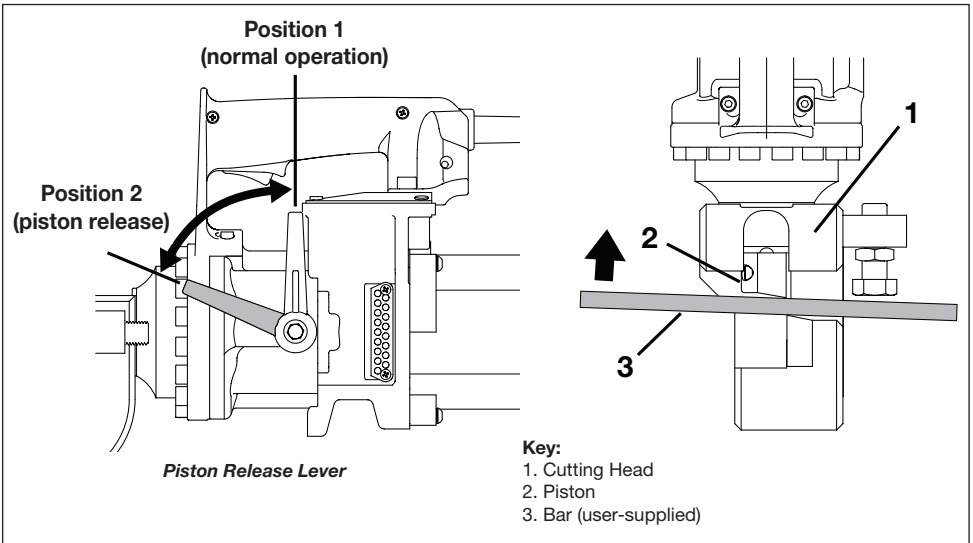

Figure 11, Piston Manual Retract Procedure
Refer to the following steps. See Figure 11:
3. Move the piston release lever counterclockwise to position 2. See Figure 11.
4. Using a rigid piece of steel bar, manually push the piston inside the cutter until it is returned to the home position. See Figure 11, item 3. This should dislodge any dirt or other material that had prevented the piston from returning during normal operation.
5. Move the piston release lever fully clockwise to position 1. See Figure 11.
8. Clean the exposed portion of the piston. Remove any debris, chips or dirt from this area. See Figure 11, item 1.